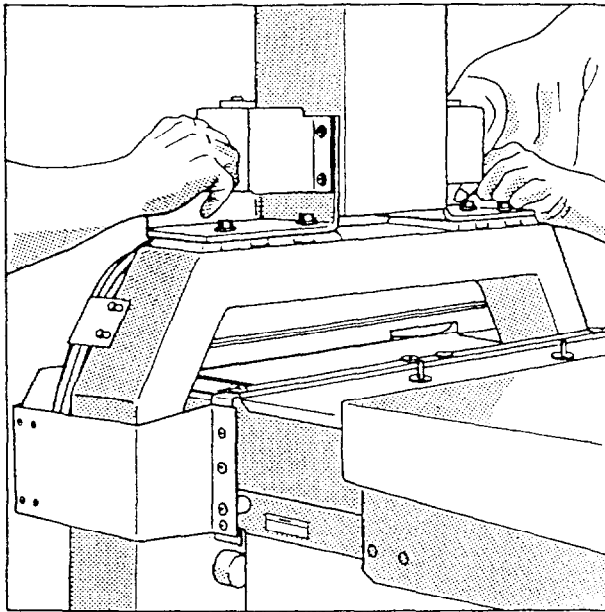
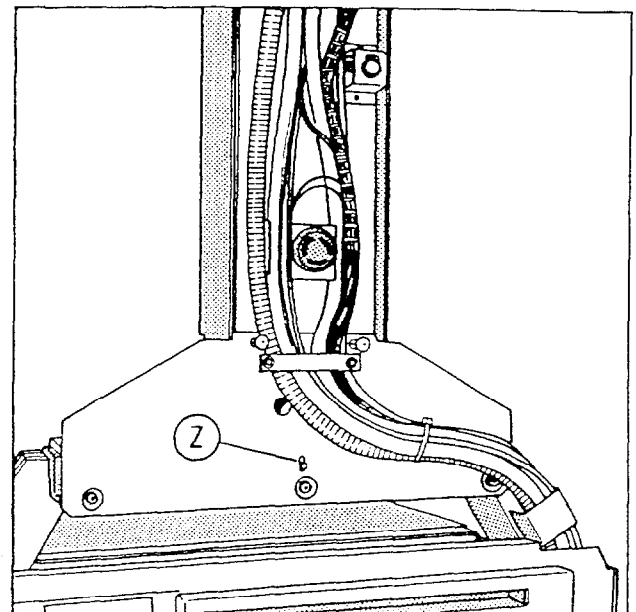

Fig. 12
Fig. 13
- Attach the tube assy support arm with eleven M8 Allen screws, and tighten with a torque of 25 Nm (Fig.12/Fig.13).